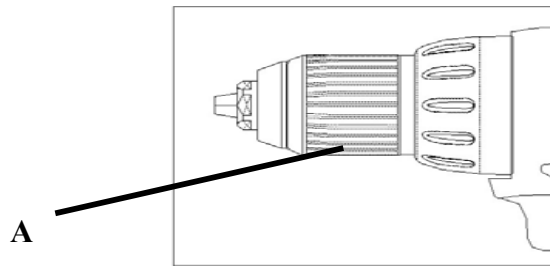

Fig. 4
1. The three-jaw chuck is designed for self-centering of the bit. Open jaws large enough by turning the sleeve (A) Fig.4 counterclockwise, when viewing the chuck from the bit end, so that the bit shank can be inserted easily.
3. While holding the bit with one hand, turn the sleeve (A) Fig4